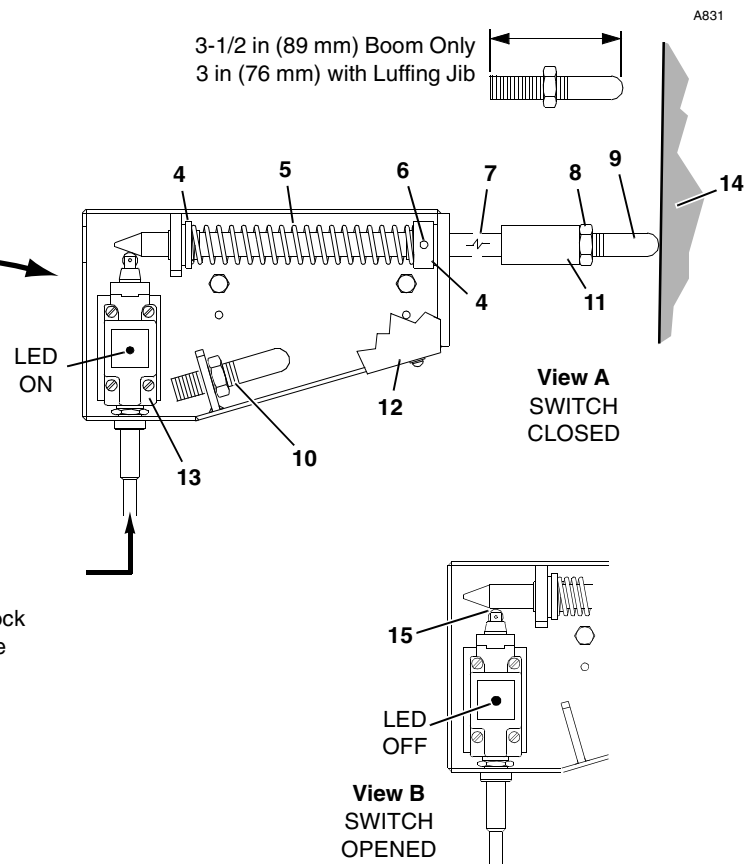

FIGURE 6-4
See Figure 6-4 for the following procedure.
A limit switch (Figure 6-4) automatically stops the boom hoist and applies its brake when the boom is raised to the following angle:
See Figure 6-4 for following instructions.
See Figure 6-4, View A for following procedure.
Unless otherwise specified, see Figure 6-4 for following procedure.
6. If boom stops before reaching Dimension A (See Figure 6-4):
7. If boom reaches Dimension A before it stops (See Figure 6-4):
8. Check that actuator rod over-travels limit switch as shown in Figure 6-4, View B.
8. If boom reaches specified Protractor Angle before it stops (See Figure 6-4):